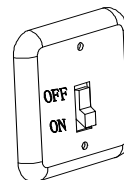

Fig.13
9. Turn on the power supply in the wall switch after installation, to check the fixture if wired correctly and avoid the existence of poor wiring. (see fig 13)